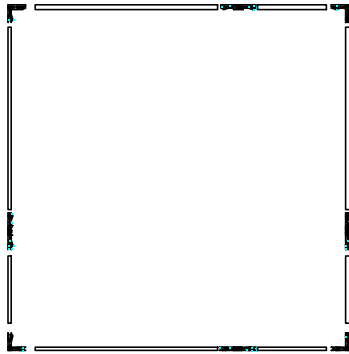

Figure 14: Diagram of 3 ft x 3 ft frame
- 1 Build the 3 ft x 3 ft frame structure as shown in Figure 14 using four 2 ft aluminum frame tubing pieces, four 1 ft aluminum frame tubing pieces, four right-angle tubing connectors, and four straight tubing connectors. Remember to construct the frame so that all Velcro surfaces face in (toward the center of the structure).